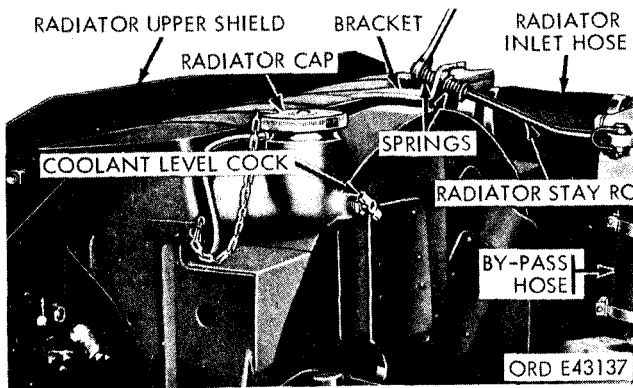
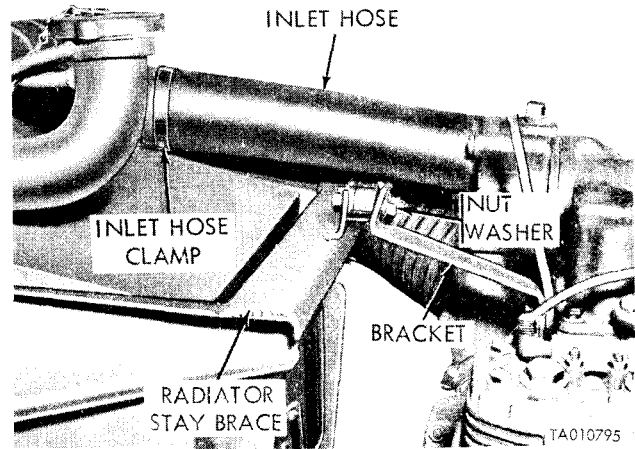
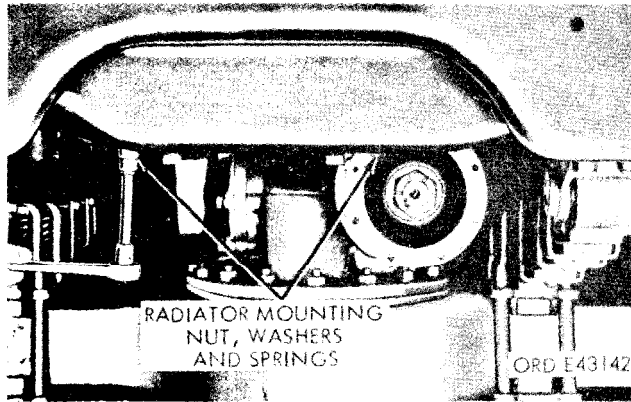

Figure 2-123. Upper section of radiator—left rear view.
Figure 2-124. Upper section of radiator—multifuel models.
Figure 2-125. Radiator mounting.
- (1) Drain the cooling system. Refer to TM 9-2320-211-10.
- (2) Remove the brush guard (para 2-236).
- (3) Loosen the nut at the front end of the stay rod (fig. 2-123). Pull the stay rod front end upward, and remove the rod from the bracket. On multifuel models, remove the nuts and washers at the front of the stay brace (fig. 2-124).
- (4) Loosen the front clamp on the inlet hose (fig. 2-123).
- (5) Loosen the front clamp on the outlet hose on the lower right side.
- (6) Loosen the two nuts and bolts securing the radiator upper shield. Pull the upper shield (fig. 2-123) forward, and remove it from the brackets.
- (7) Loosen the bolt at the top left side of the frame strap from the crossmember. On multifuel models, remove the ground strap from the radiator shroud.
- (8) Remove the two mounting nuts (fig. 2-125), washers, and springs (rubber mounts take the place of springs on multifuel models) from the underside of the engine front mounting support.
(1) Be sure that the two radiator support spacers are installed on the left and right mounting studs on the bottom of the radiator; then insert the radiator mounting studs in the holes in the engine front mounting support.
(2) Install the springs (rubber mounts on multifuel models), washers, and nuts on the radiator mounting studs from the underside of the engine front mounting support. Tighten the nuts evenly. Do not completely compress the springs.
(3) Slide the radiator ground strap terminal under the head of the ground strap retaining bolt and tooth type lockwasher at the top left side of the frame front crossmember, and tighten bolt. On multifuel models, connect the ground strap to the shroud.
(4) Tighten the clamp to secure the outlet hose at the lower right side.
(5) Tighten the front clamp on the inlet hose (fig. 2-123).
(6) Place the front end of the stay rod (fig. 2-123) in the bracket, and tighten the nut. On multifuel models, install the washers and nuts to secure the stay brace at the front. Do not completely compress the springs.
(7) Slide the slotted ends of the radiator upper shield (fig. 2-125) under the head of the bolt and lockwasher on the left and right headlight support brackets, and tighten the nuts and bolts.